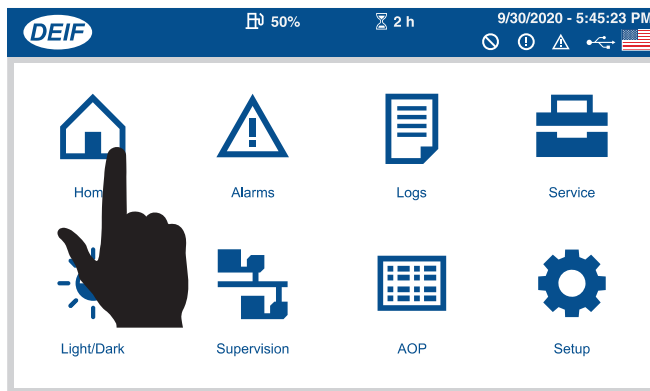

Figure 89. Main Menu Screen (Home Button)
7. Verify that the **Main Menu** screen (Figure 89) is displayed, then press the **Home** button.
- Verify that the **Main Menu screen** (Figure 89) is displayed, then press the **Home button**.